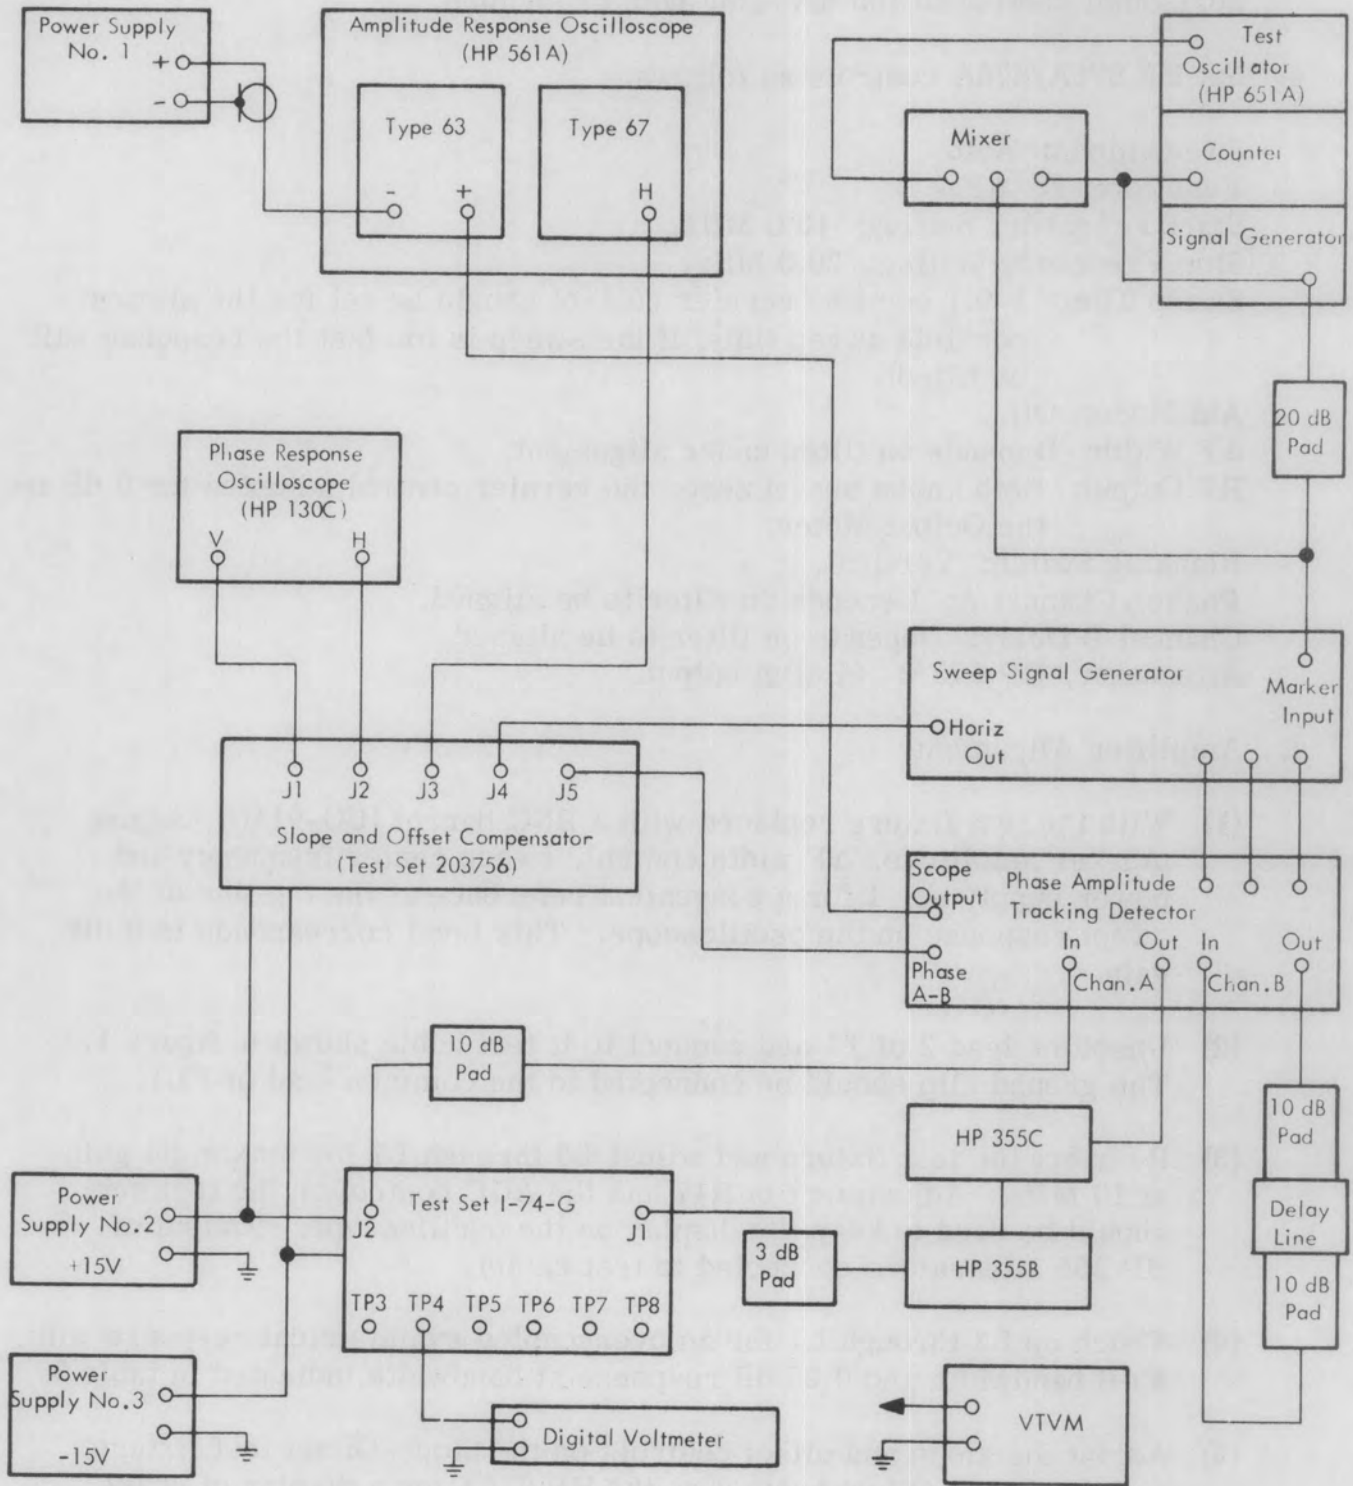

Figure 1. Test Equipment Setup
- a. Connect test equipment as shown in figure 1.
- (1) With the test fixture replaced with a BNC barrel (UG-914U), adjust marker amplitude, ΔF width control, sweep center frequency and power supply no. 1 for a convenient reference at the top line of the swept response on the oscilloscope. This level corresponds to 0 dB gain.
- (2) Unsolder lead 2 of T1 and connect to it test cable shown in figure 1. The ground clip should be connected to the common lead of FL1.
- (3) Reinsert the test fixture and adjust L3 through L7 for maximum gain at 10 MHz. Adjustment of R17 and the AGC control on the test set should be used to keep the display on the oscilloscope. (Output of HP 355 attenuators connected to test cable).
- (4) Touch up L3 through L7 for an overcoupled symmetrical response with 3 dB bandwidth and 0.25 dB response at bandwidth indicated in table 3.
- (5) Adjust the slope and offset controls on the Slope-Offset test fixture and the Phase Offset control on the HP 676A for a display of phase across the 0.25 dB bandwidth. The phase should be within $\pm 0.5^\circ$ of the best straight line.
- (6) Remove the test cable and reconnect lead 2 of T1.
ELECTRICAL PARTS LIST - (See Figures 1 and 2)